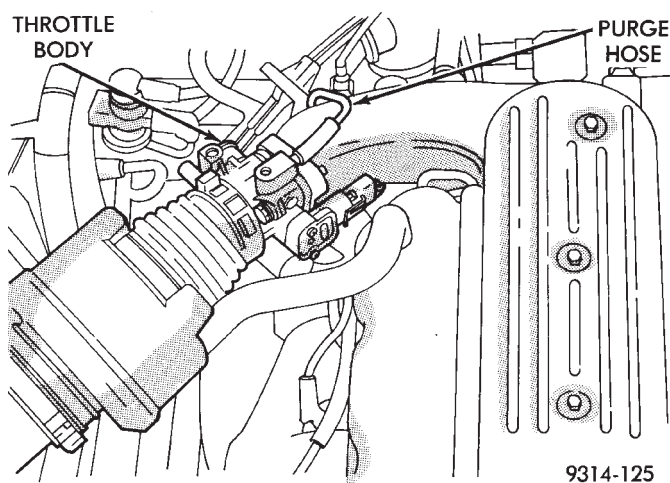

Fig. 24 Purge Hose—3.3L Engine
(5) Disconnect purge hose from the nipple on the throttle body (Fig. 24).